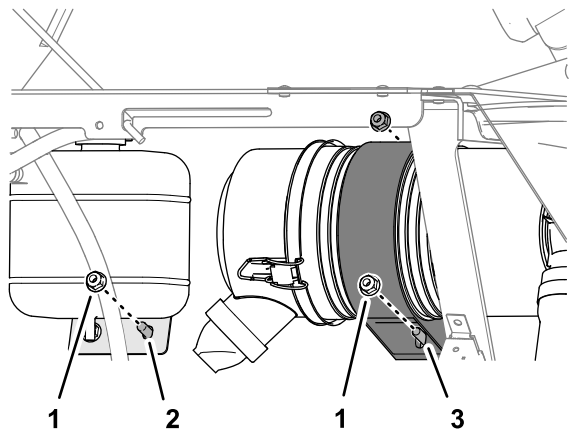

**Figure 168**
2. Align the modem bracket to the right seat-box panel (Figure 168).
3. Assemble the modem bracket to the right seat-box panel and the air-cleaner mount (Figure 168 and Figure 169) with the 2 flange-head bolts (5/16 x 1 inch) and 2 flange locknuts (5/16 inch) that you removed in Preparing the Machine (page 71).
4. Assemble the modem bracket to the right seat-box panel and the coolant reservoir bracket (Figure 168 and Figure 169) with the capscrew (5/16 x 3/4) and flange locknut (5/16).